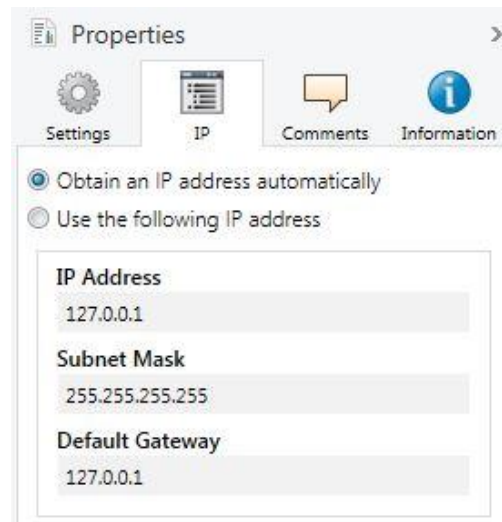

Figure 31: Setting of the IP address data of the device on the "IP" tab in the sidebar of the ETS
3. Select the "IP" tab accordingly Figure 31. Then select either